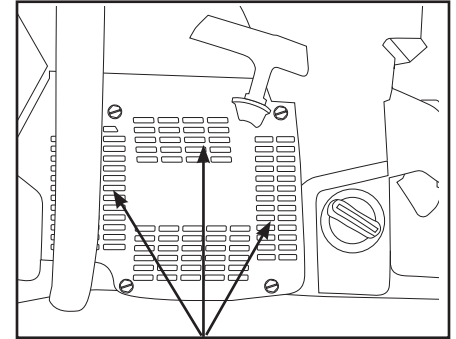

Figure 1
- After each usage, thoroughly flush the starter housing assembly with water. (Figure 1)
- Lubricate the starter pawls by spraying light weight oil into the starter housing through the vents. (Figure 1)